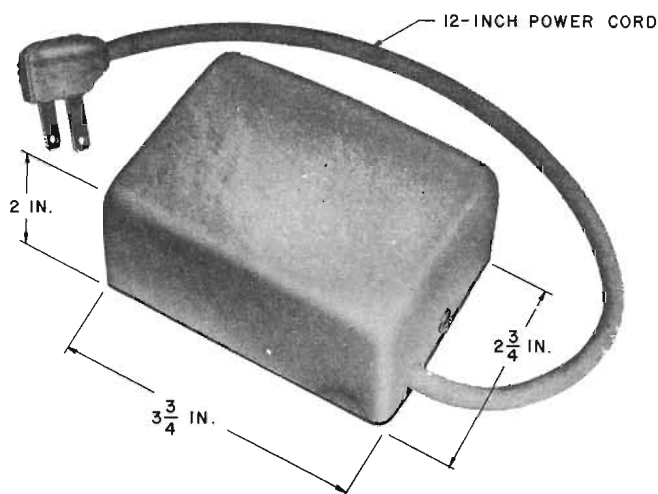

Fig. 1 — J87202A, List 1 Rectifier
2.01 The rectifier (Fig. 1) is a compact unit designed to convert 117 volts 60 cycles ac to +12 volts and +30 volts dc.